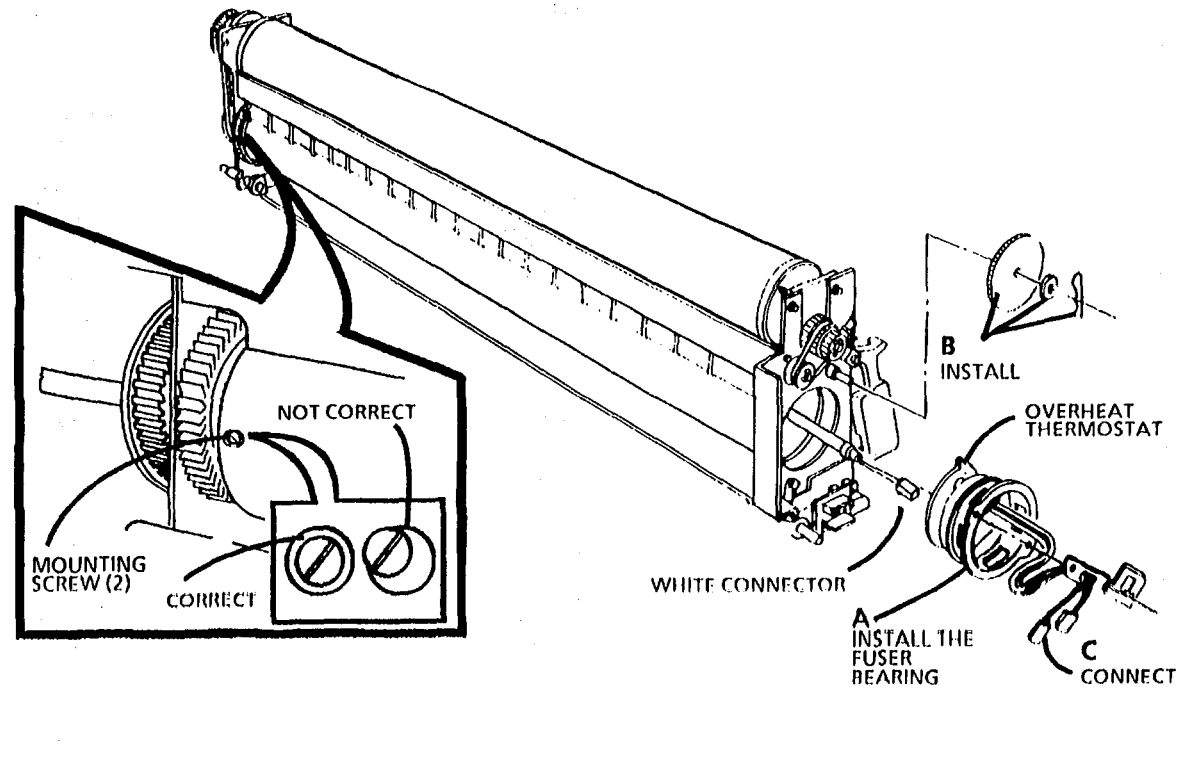

Figure 15. Installing the Fuser Bearing
15. (Figure 15): Install the fuser bearing and the clip.
16. (Figure 15): Ensure that the fuser roll is not pinched under the mounting screws.